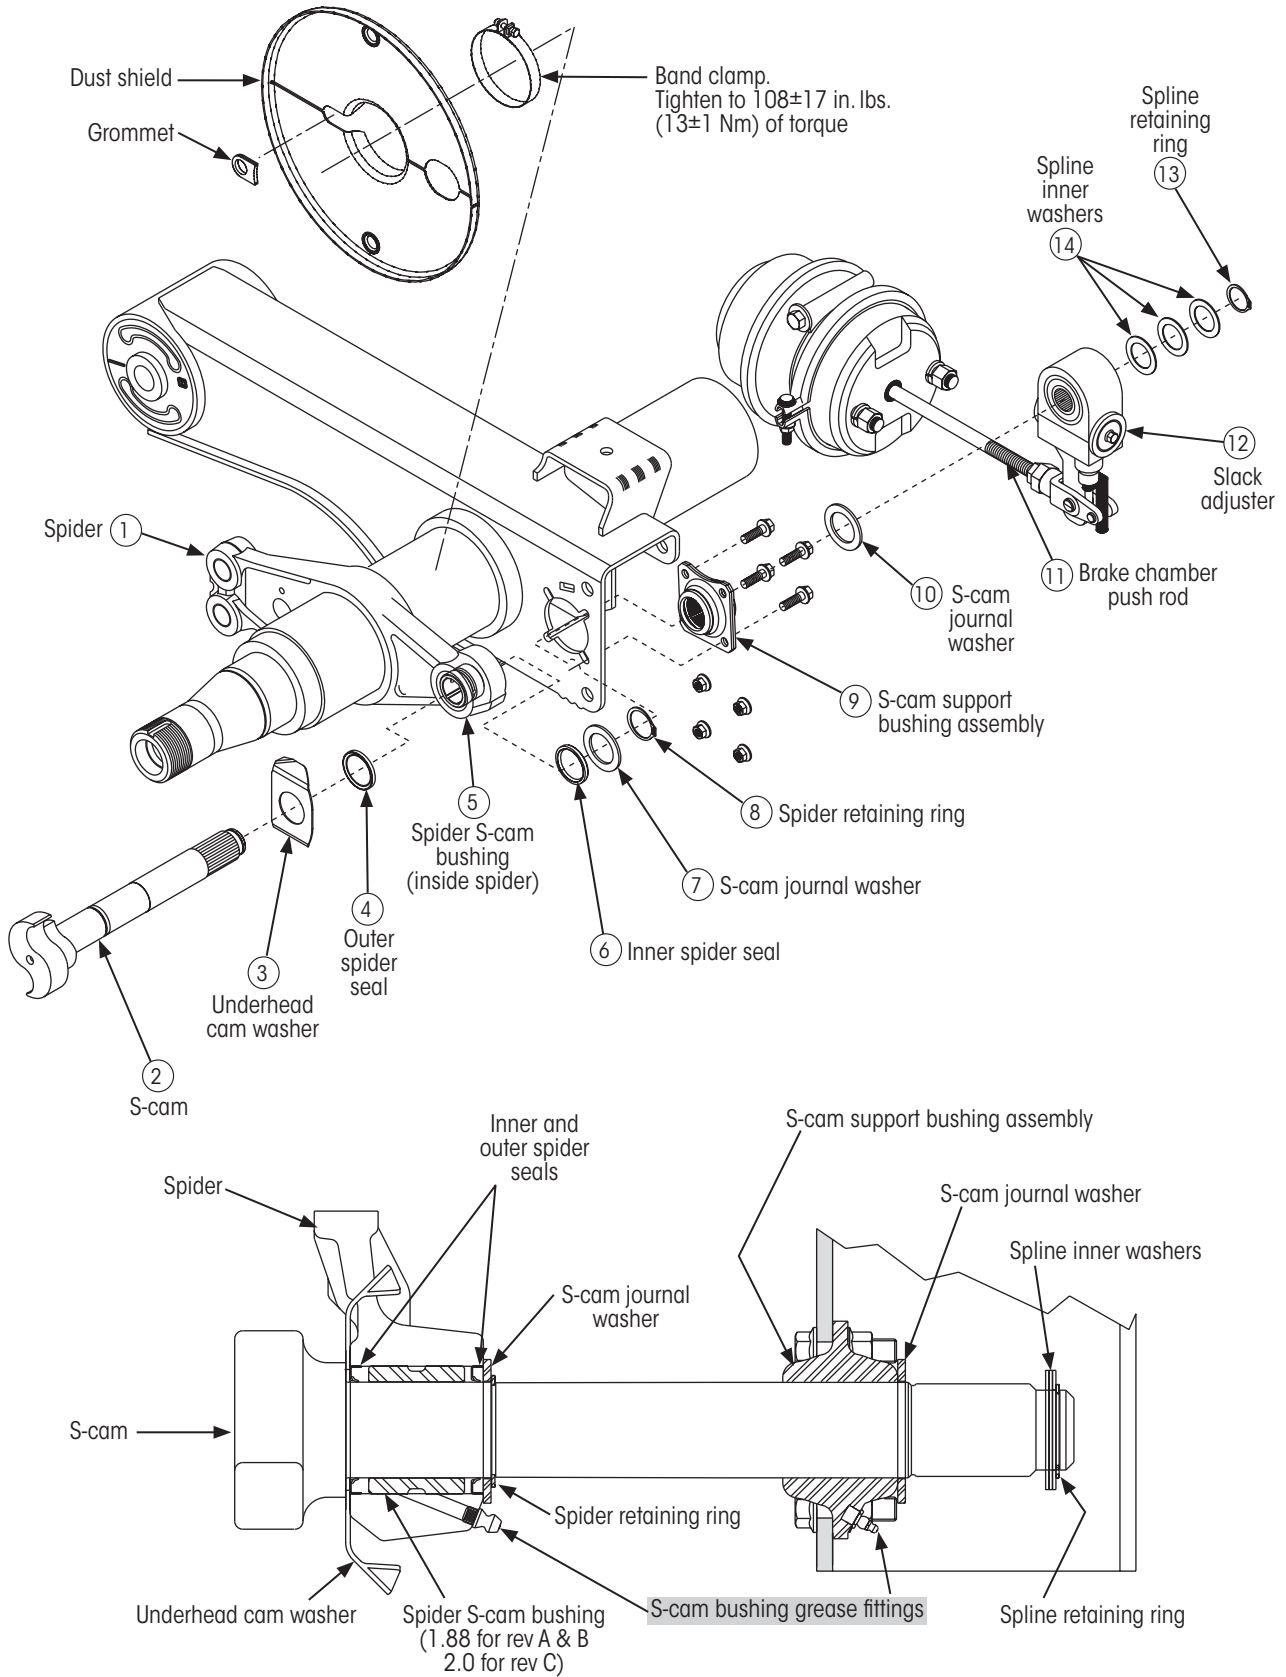
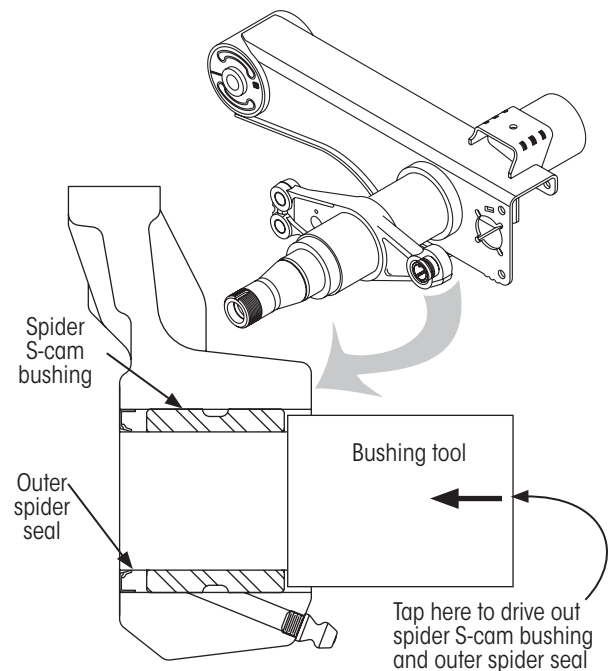

Figure 10: AA230T revision levels A, B and C parts identification
Figure 11: Spider S-cam bushing and outer seal removal
Refer to Figure 10 for parts identification.
2. Using retaining ring pliers, **remove** the spline retaining ring (item 13, Figure 10).
3. **Remove** the spline inner washers (item 14, Figure 10).
4. **Disconnect** the brake chamber push rod (item 11, Figure 10) from the slack adjuster (item 12, Figure 10) by removing the cotter pin(s) and clevis pin(s) from the slack adjuster clevis. **DO NOT** adjust or remove the push rod jam nut at this time.
7. **Remove** the S-cam journal washer (item 10, Figure 10).
9. **Support** the S-cam to remove tension from the spider retaining ring. Using retaining ring pliers, **spread open** the spider retaining ring (item 8, Figure 10) and **remove** it from the groove in the S-cam (item 2, Figure 10).
10. **Partially remove** the S-cam by pulling on the S-cam head. **Pull** the S-cam far enough out of the S-cam support bushing (item 9, Figure 10) so the spider retaining ring (item 8, Figure 10) and the S-cam journal washer (item 7, Figure 10) can be slid off the spline end of the S-cam. When the spider retaining ring and the S-cam journal washer are removed, finish removing the S-cam and the underhead cam washer (item 3, Figure 10).
11. **Loosen and remove** the four bolts that secure the S-cam support bushing assembly (item 9, Figure 10) to the suspension beam.
13. Using a small screwdriver, **carefully remove** the inner spider seal (item 6, Figure 10) from the spider.
14. Using a bushing tool (Figure 11) or seal driver, tap the spider S-cam bushing (item 5, Figure 10) and outer spider seal (item 4, Figure 10) out of the spider bore.
4. Lightly coat the inside diameter of a new S-cam support bushing (item 9, Figure 10) with fresh grease (EP NLGI #2 grease).
5. Install the new S-cam support bushing assembly (item 9, Figure 10) with four new attaching nuts and bolts. Only hand tighten the four attaching nuts and bolts at this time.
8. **Install** new inner and outer spider grease seals (items 4 and 6, Figure 10) on each side of the spider S-cam bushing.
1. **Slide** the underhead cam washer (item 3, Figure 10), facing as shown in Figure 10, onto the new S-cam until it contacts the S-cam head.
2. **Install** the new S-cam (splines first) through the spider S-cam bushing. Stop before the splines reach the S-cam support bushing assembly (item 9, Figure 10) so the S-cam journal washer (item 7, Figure 10) and the spider retaining ring (item 8, Figure 10) can be installed on the end of the S-cam.
3. **Slide** the S-cam journal washer (item 7, Figure 10) onto the S-cam and seat it against the spider.
4. Using retaining ring pliers, **hold open** the spider retaining ring (item 8, Figure 10) and **slide** it on the end of the S-cam.
5. **Push** the S-cam all the way through the S-cam support bushing (item 9, Figure 10) until it stops against the spider.
6. **Lock** the spider retaining ring (item 8, Figure 10) into the groove on the S-cam.
9. **Install** the S-cam journal washer (item 10, Figure 10).
11. **Refer to** INSTALLING SLACK ADJUSTER ON S-CAM on page 27 to install the slack adjuster (item 12, Figure 10). **Refer to** Figure 10 on page 10 for locating spline inner washer (item 14, Figure 10) and spline retaining ring (item 13, Figure 10).
Lubricate the spider S-cam and S-cam support bushing (items 5 and 9, Figure 10) grease fittings monthly. Use EP NLGI #2 grease. Refer to *L578 Preventative Maintenance Guide* for more details.
These procedures apply to AA230T revision level "C" (Table 3 on page 8 and Figure 10 on page 10). Similar to current versions of INTRAAX®, but without a cam tube.
Figure 10 parts identification also applies.
6. Remove the S-cam journal washer (item 10, Figure 10).
1. Support the S-cam to remove tension from the spider retaining ring. Using retaining ring pliers, carefully **spread open** the spider retaining ring (item 8, Figure 10) and **remove** it from the groove in the S-cam (item 2, Figure 10).
2. **Partially remove** the S-cam by pulling on the S-cam head. **Pull** the S-cam far enough out of the S-cam support bushing (item 9, Figure 10) so the spider retaining ring (item 8, Figure 10) and the S-cam journal washer (item 7, Figure 10) can be slid off the spline end of the S-cam.
3. **Loosen** and remove the four bolts that secure the S-cam support bushing assembly (item 9, Figure 10) to the suspension beam.